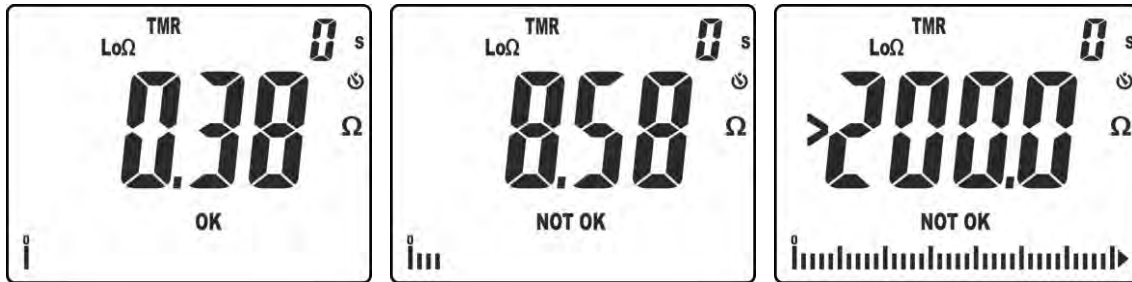

Fig. 31: Results of continuity test in TMR mode
10. In the screen in Fig. 31 – left side, a positive test result “OK” is shown (value lower than the set threshold and test current $>200\text{mA}$). In the screen in Fig. 31 – middle, a negative test result “NOT OK” is shown (value higher than the set threshold and test current $<200\text{mA}$). In the screen in Fig. 31 – right side, a negative test result “NOT OK” is shown, corresponding to the out-of-range condition (symbol “ >200.0 ”).